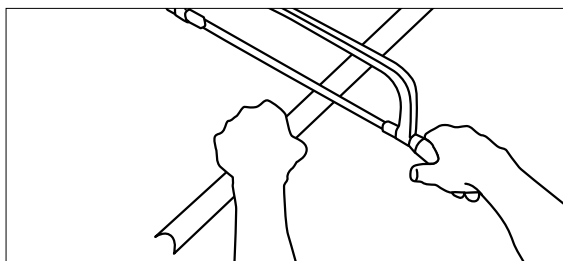

Fig. 48-5 Cutting off
1. Cut off the pipe support channel with a metal saw (see Fig. 48-5). Maintain a safe distance between the holding hand and the cutting tool. Saw pipe support channels from the rounded rear side so that they are not bent open at their bordered ends.